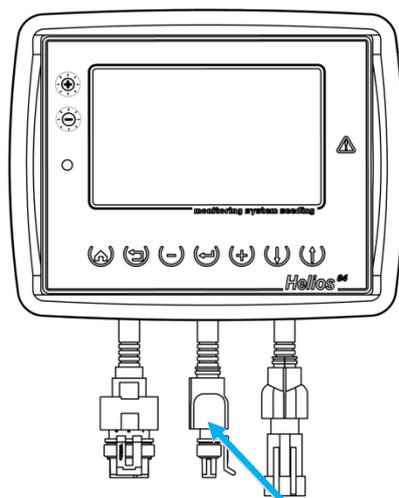

Figure 21 Network cable
1. Disconnect all the seeding sensors from the network cable on the control panel (4-pin connector, see Figure 21).
2. Connector of sensor, which address should be changed, plug into connector of the network cable of the control panel (see Figure 21).